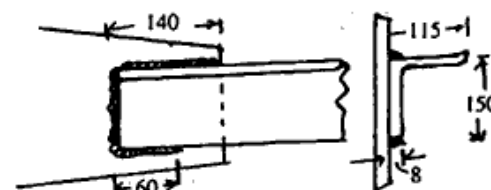

Figure 1
- c) Compute tensile strength of an angle section ISA 150 × 115 × 8 mm. of Fe410 steel connected with the gusset plate as shown in figure 1 for net section rupture. (Dimensions are in mm). 5